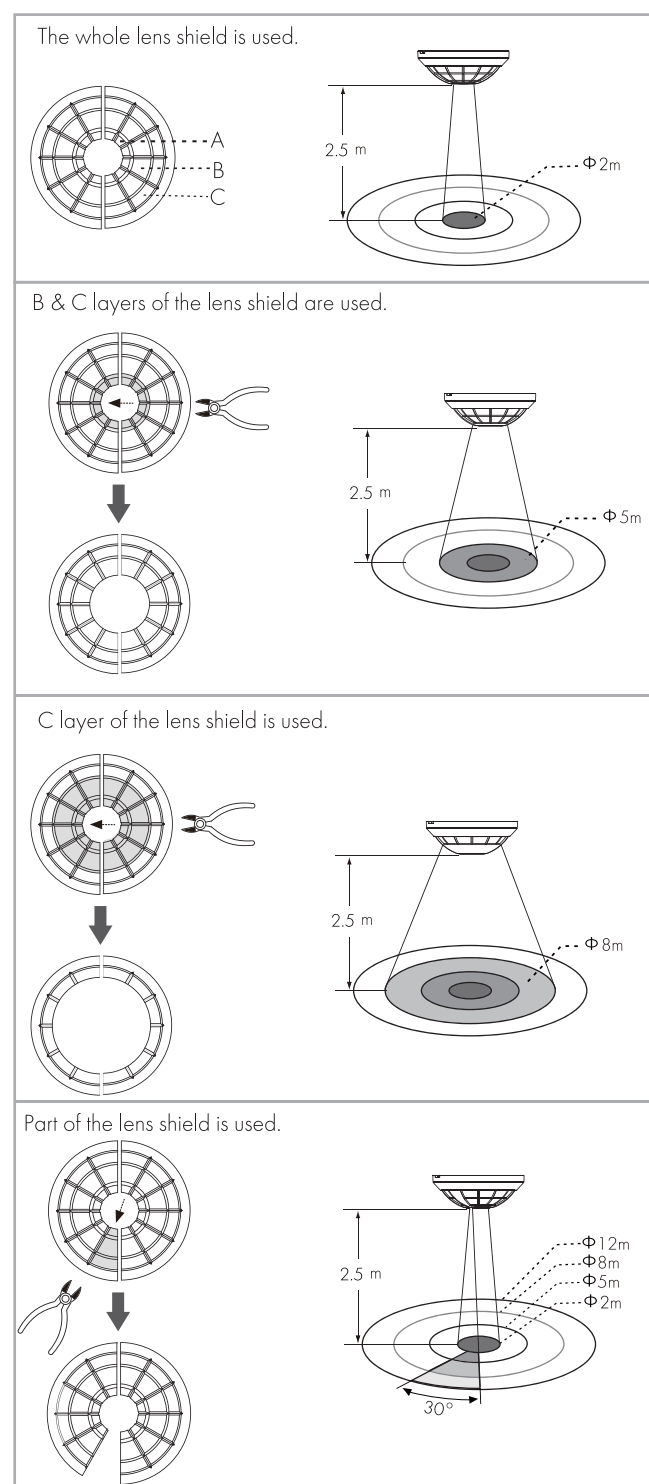

FIG.12
4.3.1 PD02X01CON has provided 2 lens shields for masking the undesired detection area. (See FIG.12).
- The shadow part of the lens shields in FIG.12 refers to the cut off parts.